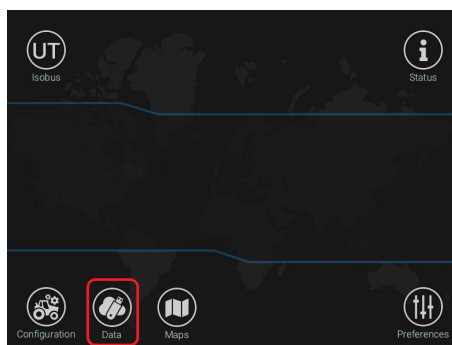

Fig. 98
The monitor shows the **Data** menu (Fig. 98).
- Press the **Data** icon (Fig. 98).